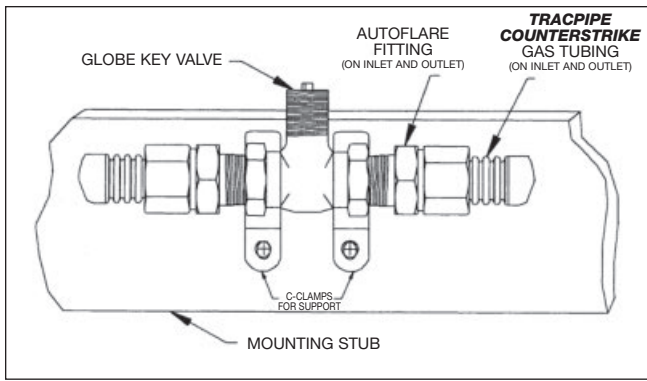

Figure: 4-2
2. Flexible piping connections to fireplace “key valves” can be located in a concealed location, when accessibility is not readily provided. See Figures:4-2 and 4-3 for typical key valve mountings.